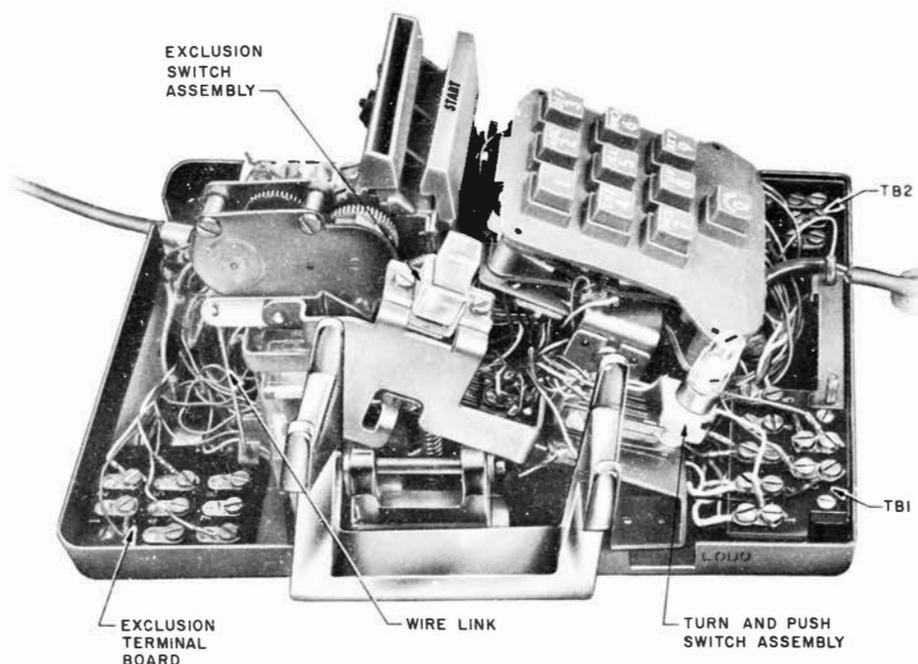

Fig. 2 - 1660-Type Telephone Set, Cover Removed
- Exclusion switch assembly with leads and terminal board attached (Fig. 2).